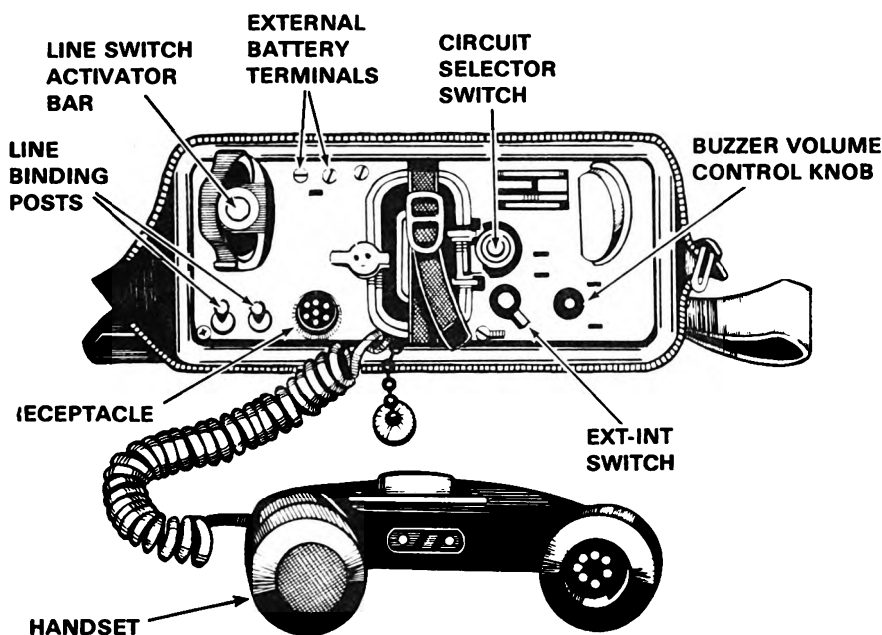

Figure 2.
- b. Refer to figure 2. Depress the spring-loaded line binding posts and insert one strand into each post.